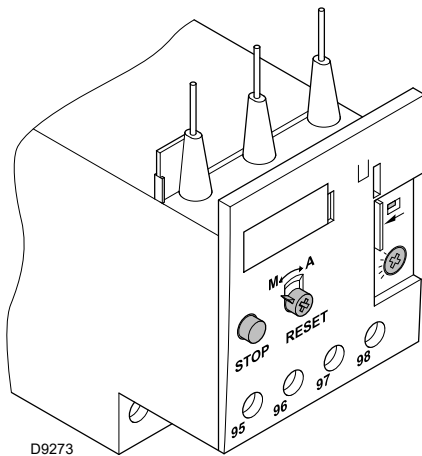

Fig. 31
The electro-mechanical thermal relay (Fig. 31) is used to avoid damage to the motor owing to a strong increase in absorption or the lack of a phase.
- To reset, in the case of an intervention of the thermal relay, press the button **"RESET"** (Fig. 31).
- The button **"STOP"** (Fig. 31) opens the NC (95-96) contact and stops the motor.